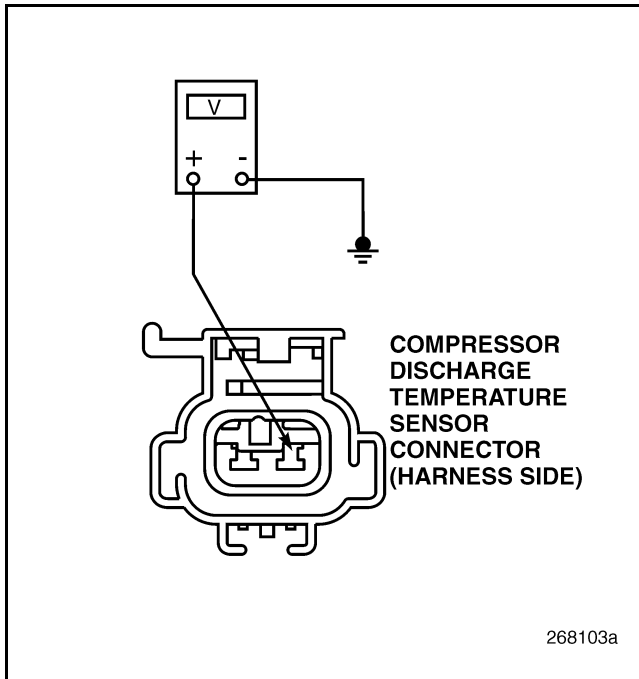

Figure 825
5. Measure the voltage between pin 1 of the CDT Sensor harness connector and a good ground (see Figure 825).